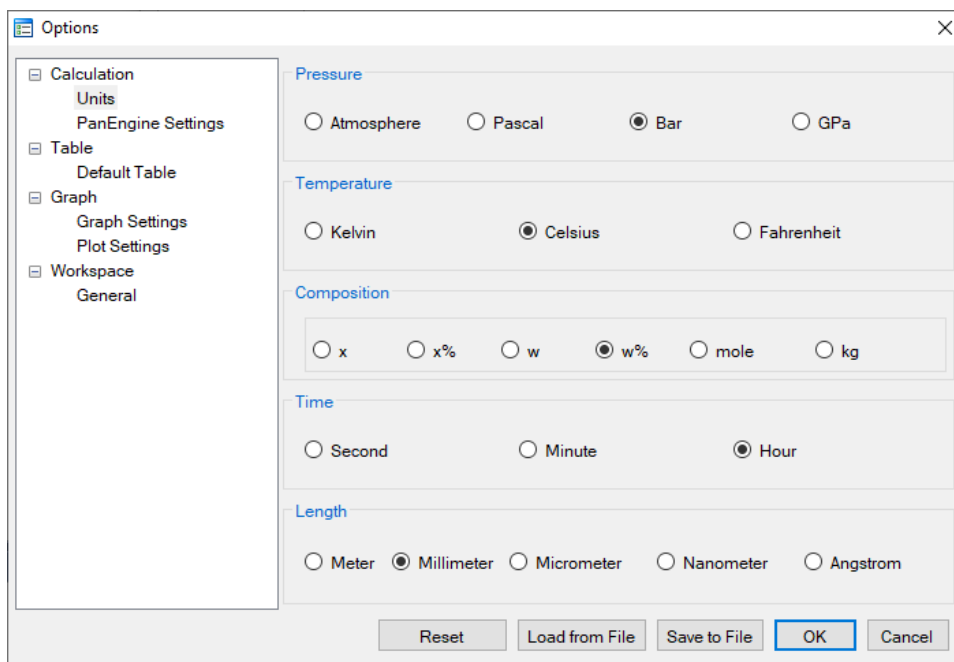

Figure 4.11.2: Units applied in this example.
- Select the units of the simulation from the “Options” dialog in Figure 4.11.2: